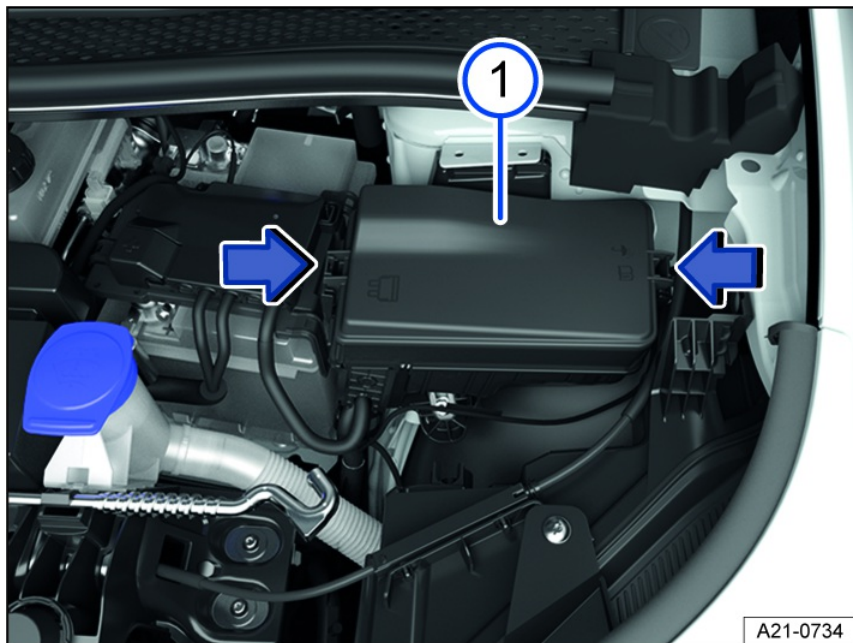

Fig. 145 In the hood space: fuse box.
2. Press the catches in the direction of the arrow *fig. 145* (arrows), to release the fuse box cover *fig. 145* .